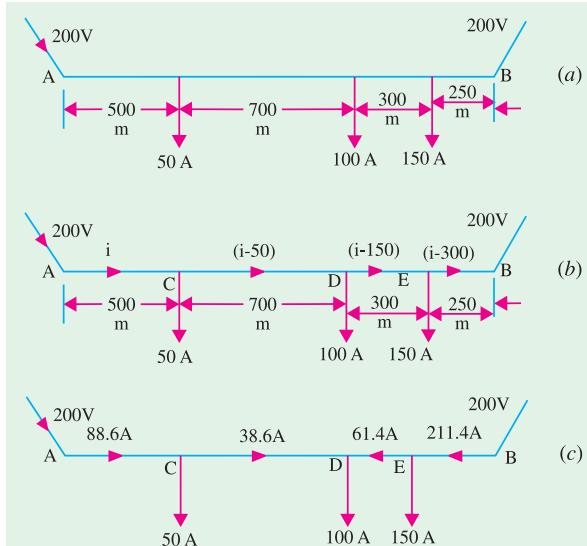

Fig. 40.14
**Example 40.5.** The resistance of a cable is  $0.1 \Omega$  per 1000 metre for both conductors. It is loaded as shown in Fig. 40.14 (a). Find the current supplied at A and at B. If both the ends are supplied at 200 V.
**Solution.** Let the current distribution be as shown in Fig. 40.14 (b). Resistance for both conductors =  $0.1/1000=10^{-4} \Omega/m$ . The total drop over the whole cable is zero because it is fed at both ends by equal voltages.
This gives the current distribution as shown in Fig. 40.14 (c).